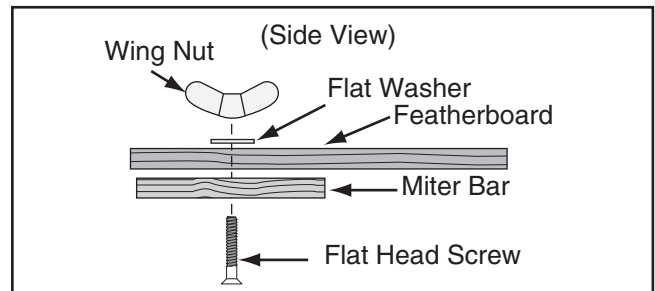

Figure 79. Assembling miter slot featherboard components.
8. Assemble the miter bar and featherboard with a $\frac{1}{4}$ "-20 x flat head screw, flat washer, and a wing nut or a star knob (see **Figure 79**). Congratulations! Your featherboard is complete.